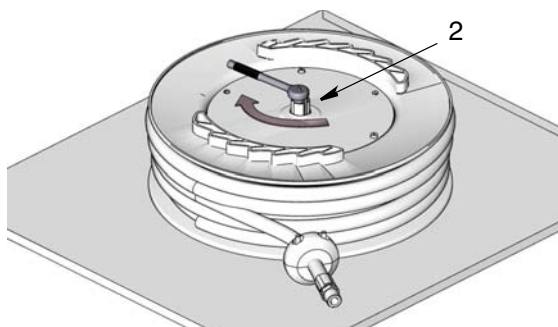

FIG. 14
13. Turn spool over again and loosen cap (2) to remove swivel assembly from spool (FIG. 14).